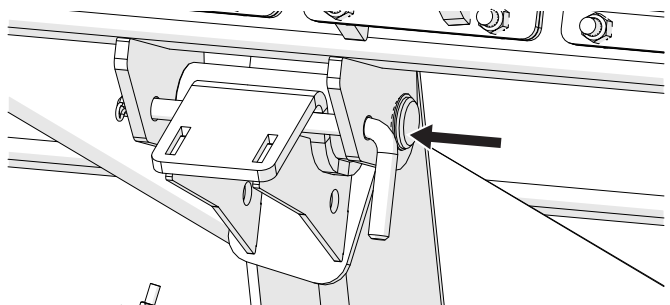

Figure 15. Installing Wing Transport Pin
5. Replace wing pins to hold wings into wing rest. See **Figure 15**.